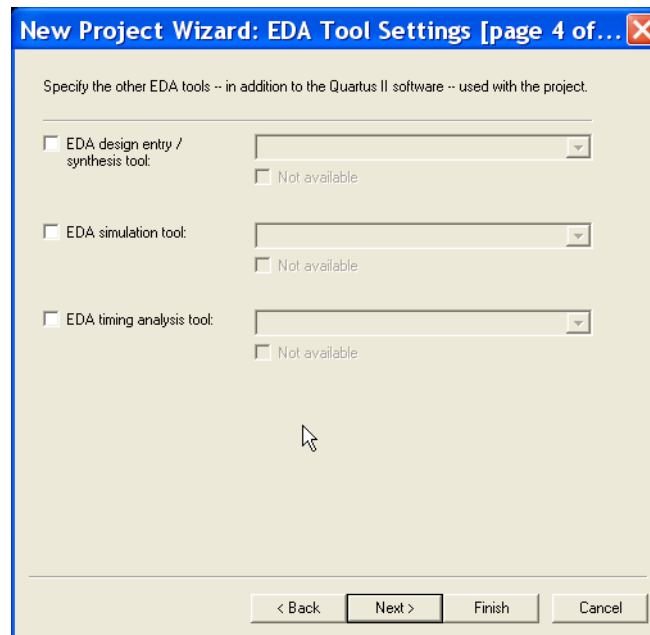

Figure 9. Other EDA tools can be specified.
4. We have to specify the type of device in which the designed circuit will be implemented. Choose Cyclone™ II as the target device family. We can let Quartus II software select a specific device in the family, or we can choose the device explicitly. We will take the latter approach. From the list of available devices, choose the device called EP2C35F672C6 which is the FPGA used on Altera’s DE2 board. Press Next, which opens the window in Figure 9.